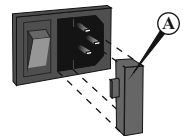

Fig.2 Fuse replacement
**Replacement of fuses.** Disconnect the unit from the mains outlet. Remove the power plug from the rear of the unit. Pull out the fuse drawer by applying leverage in recess (Fig.2/A). Remove the fuse from the holder. Check and replace with the correct fuse if necessary (1.6 A for 230V, 50Hz or 3, 15 A for 120V, 60Hz).